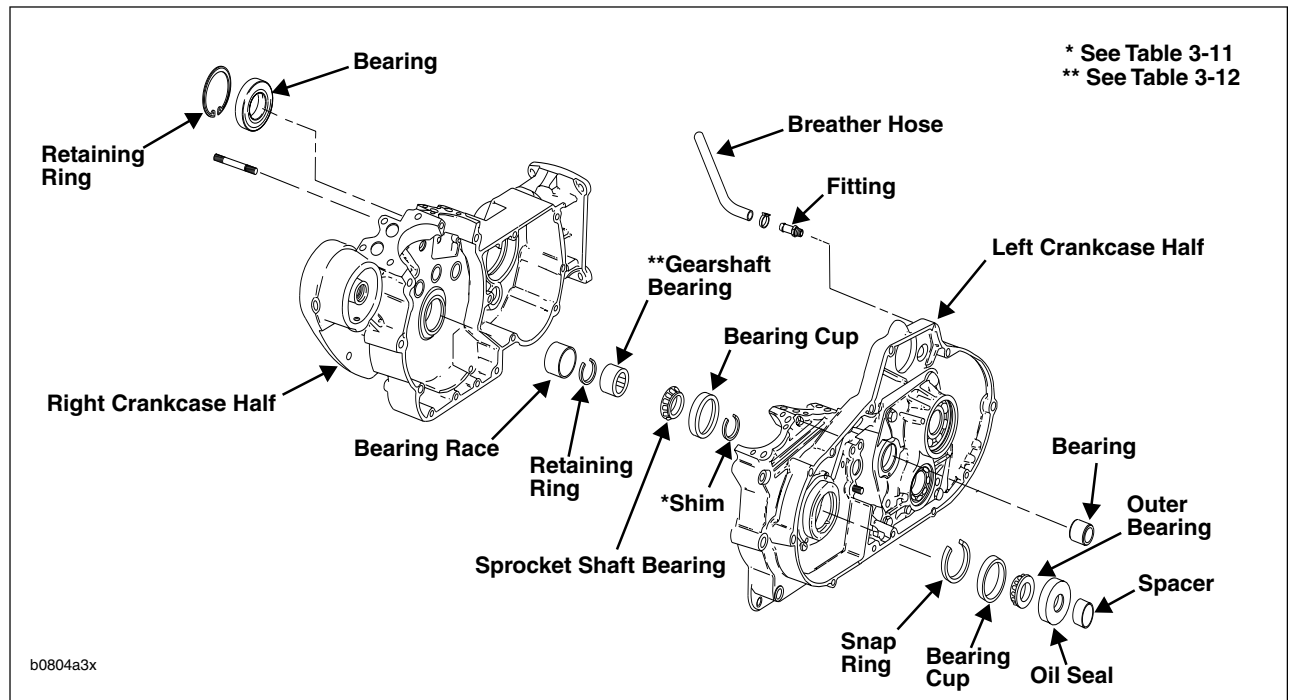

Figure 3-78. Crankcase Assembly
- Replace bearing inner shim (See Figure 3-78.) if difference (end play) in indicator readings is not 0.001-0.005 in. (0.025-0.127 mm). Choose shim from Table 3-11.
See Figure 3-78. A pressed-in bushing in the right crankcase half is the outer race. The inner race is pressed on the pinion shaft.